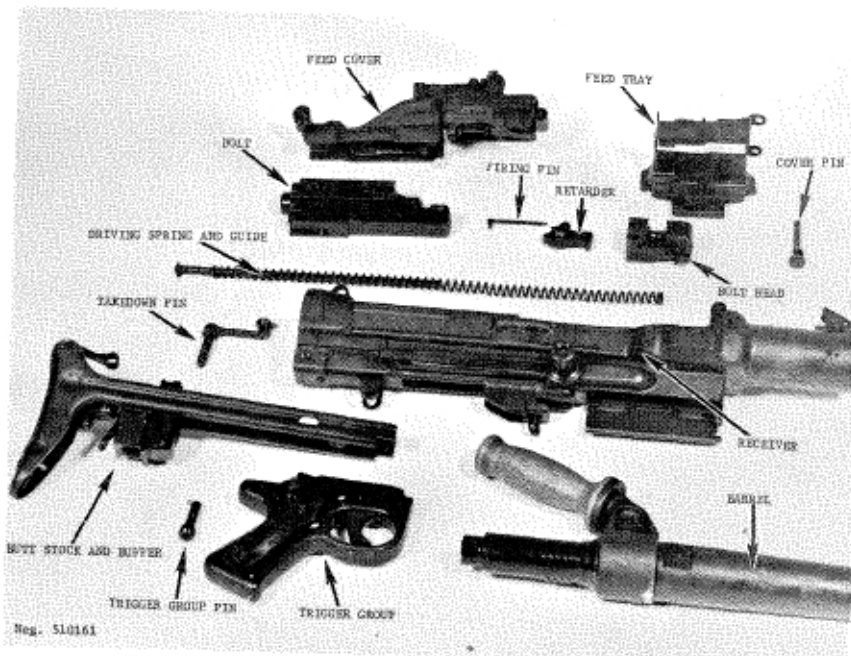

Figure 162. AA-52 disassembled.
- c. Slide the bolt rearward until it can be removed (Note: The bolt head may separate from the bolt during removal; if so, just pull the bolt head out of the receiver). Pull the firing pin out of the bolt head or bolt body as required after separating the bolt head and bolt body (fig 162).
e. Lift the feed tray (fig 162) up against the open feed cover and pull out the pin (fig 162) by its knurled head. Remove the feed cover and feed tray. No further disassembly is necessary or desirable.
d. The extractor holds the fired cartridge against the bolt face until the twin fixed ejectors on the bottom rear of the feed tray strike the cartridge and expel it out the bottom of the gun. Rearward movement ceases when the buffer (fig 162) in the rear of the bolt strikes the backplate. If the trigger is still depressed, another firing cycle starts.